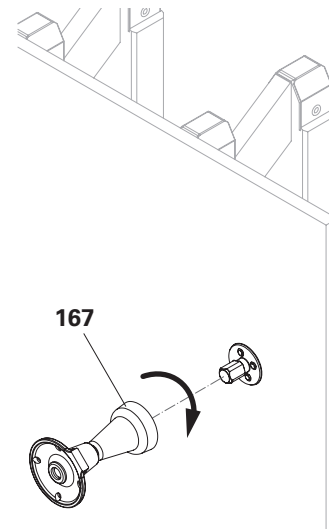

Fig. A3.23
3. Screw pre-assembled climbing ties (**167**) onto the Anchor Positioning Stud M30 (**177**) and tighten. (Fig. A3.23 + A3.24)